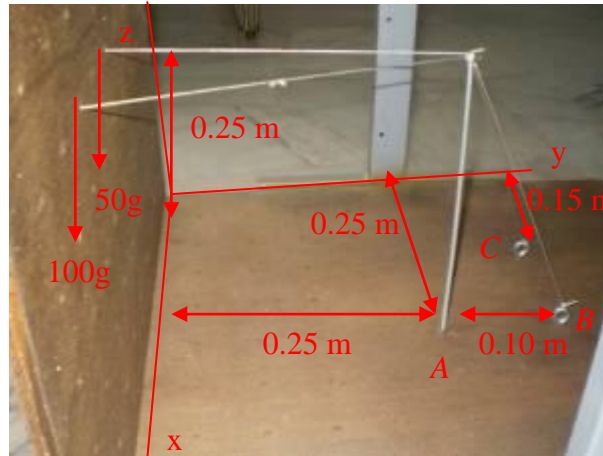

Figure 1
1. Tighten the screw at the coordinate of A (0.25, 0.25) m as shown in figure 1.